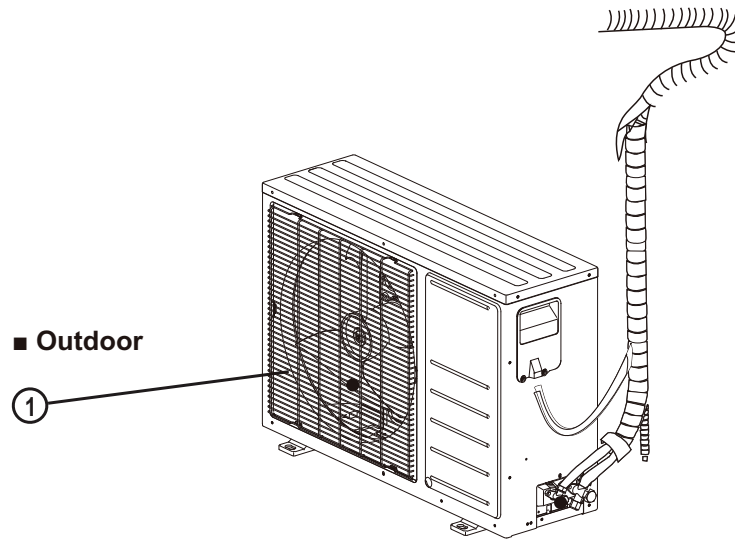

Fig. 4 — Parts List
- The illustration above (Fig. 4) is only a sketch. Different models may be differ slightly.